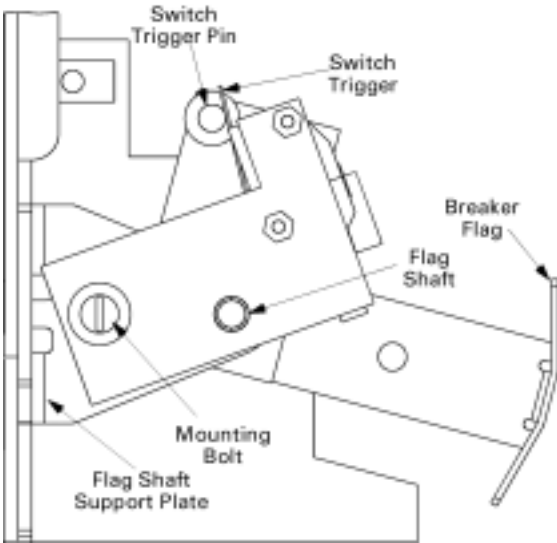

Figure 4. Remote charge-indication switch side view (installed).
- b. Rotate the switch until the switch trigger is fully depressed against the trigger pin, as illustrated in Figure 4.